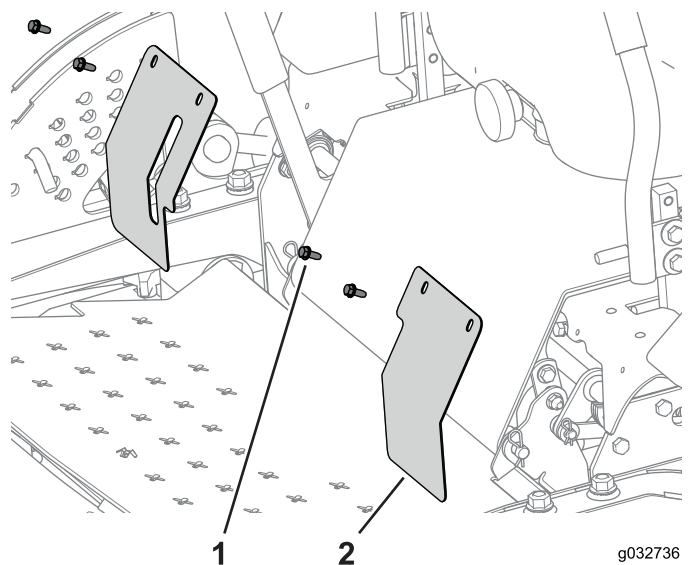

Figure 114
1. Remove the cover plates and set them aside (Figure 114).